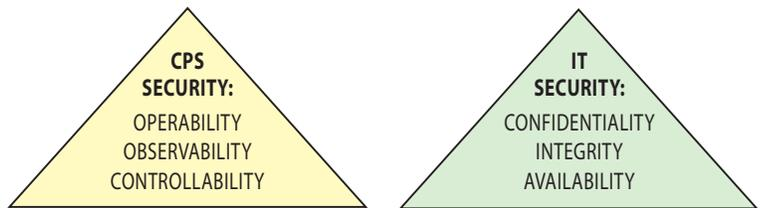

FIGURE 1 Comparison of IT and CPS Security Attributes.
is the incorporation of cyber security into CPS design, analysis, and implementation and maintenance considerations including: (1) threat modeling, (2) vulnerability analysis and (3) life cycle cyber security risk management [11], [12]. The key differences in Information Technology (IT) and CPS security are highlighted by the **Figure 1** comparison of key attributes [13].